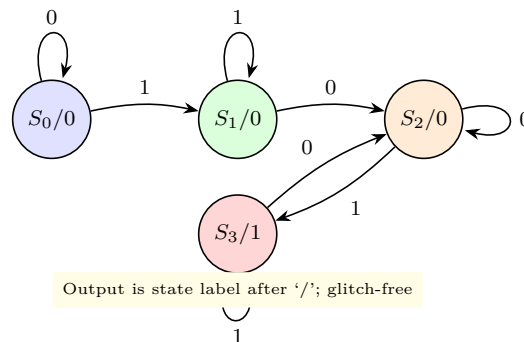

Figure 5.2: Moore FSM that outputs 1 when the last three inputs were 101. State S_i means “last i bits matched prefix of 101”.
- E5.1 **Mealy vs. Moore.** Convert the Moore 101 detector in Fig. 5.2 to Mealy. How many states? Compare output timing on a timing diagram.